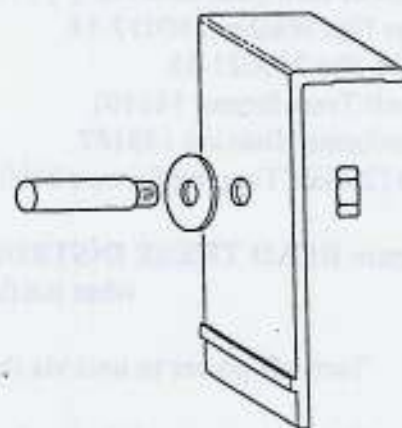

Figure 2
9. Install the shoulder bolt, washers, and 5/16-18 nut into the hole on the belt clip. The bolt should be mounted as shown in Figure 2.